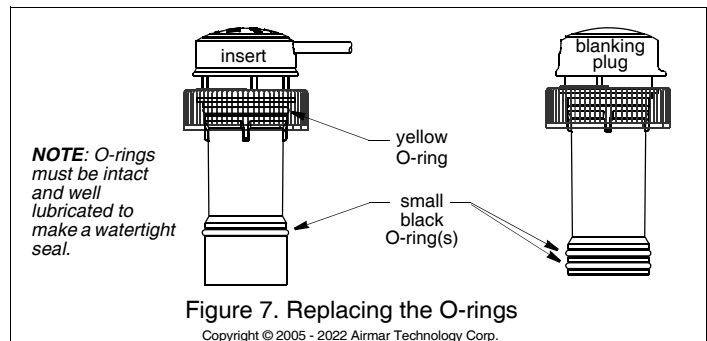

Figure 7. Replacing the O-rings
5. *All the O-rings must be intact and well lubricated to make a watertight seal.* After the marine sealant cures, inspect the O-rings on the insert (replace if necessary) and lubricate them with the silicone lubricant supplied (Figure 7). Be sure the **YELLOW** O-ring is in place near the top. Also lubricate the bore of the housing above the valve.
1. *All the O-rings must be intact and well lubricated to make a watertight seal.* On the blanking plug, inspect the O-rings (replace if necessary) and lubricate them with the silicone lubricant supplied or petroleum jelly (Figure 7).
*All the O-rings must be intact and well lubricated to make a watertight seal.* Install the O-rings on the insert and blanking plug as shown (Figure 7).